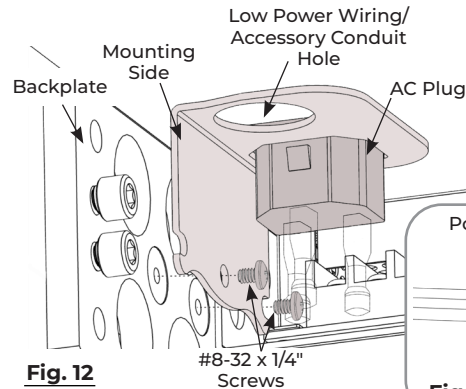
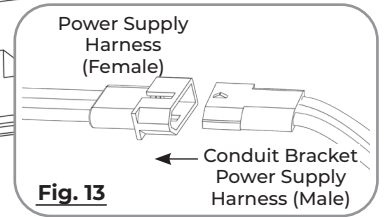

Fig. 12
Fig. 13
4. **Optional:** PC Conduit Bracket Assembly OR Surface Conduit Assembly installation. (Fig. 12 - PC Conduit Assembly shown)
- Secure the bracket to the backplate using two (2) #8-32 x 1/4" machine screws.
- Plug the bracket's wiring harness into the pre-wired harness of the power supply. (Fig. 13)